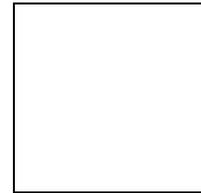

Figure 19
1. To remove the face plate first loosen the two set screws ‘A’ of Figure 19. Insert the indexing pin ‘B’ into one of the three holes and screw it in until it fully engages one of the indexing holes in the